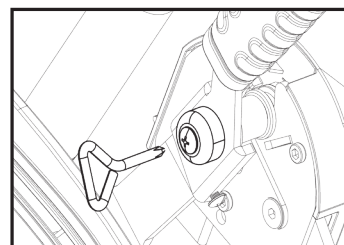

Figure 3
- **Figure 3.** Place the Bolt Cap over the Roller Hinge Bolt. Insert the Roller Hinge Screw through the Bolt Cap and into the pre-drilled hole in the Roller Hinge Bolt. Tighten using the Screwdriver.